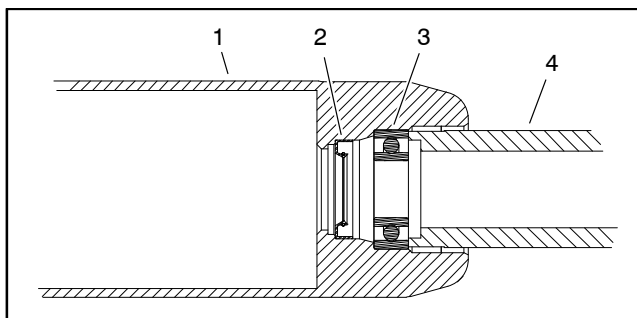

Figure 43
A. Position a new bearing into one end of roller tube. Use bearing/outer seal tool (see Special Tools) with a soft face hammer to fully seat bearing against roller shoulder (Fig. 43). After bearing installation, make sure that it rotates freely with no binding.